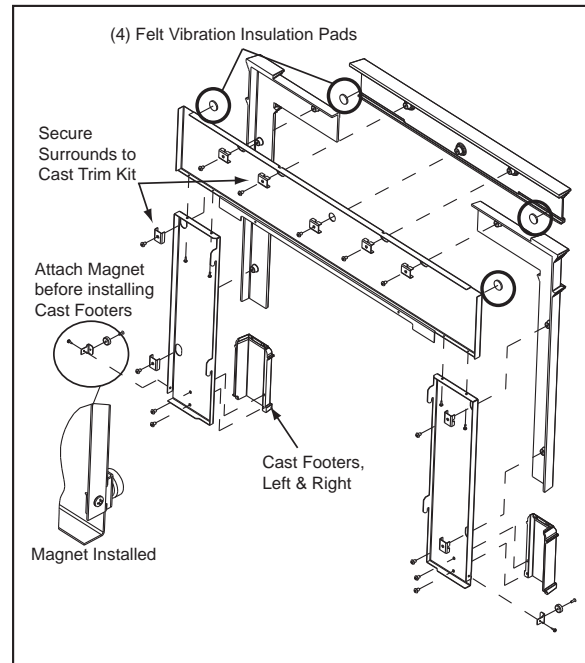

Figure 32.1
3. Using a 102mm to 152mm long Phillips head screwdriver to attach the side surrounds to the top surround using (2) #8 sheet metal screws on each side provided with the kit.
4. Place the peel and stick round felt vibration insulation pads on the front side in each corner of the top metal piece and on the back side in each corner of the top cast piece. **Figure 32.1.**